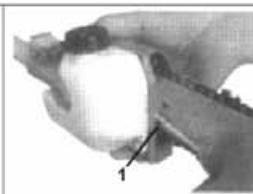

Fig. PP6
3. Lift the nose of the guide bar while turning the chain tensioning screw. See Fig. PP6